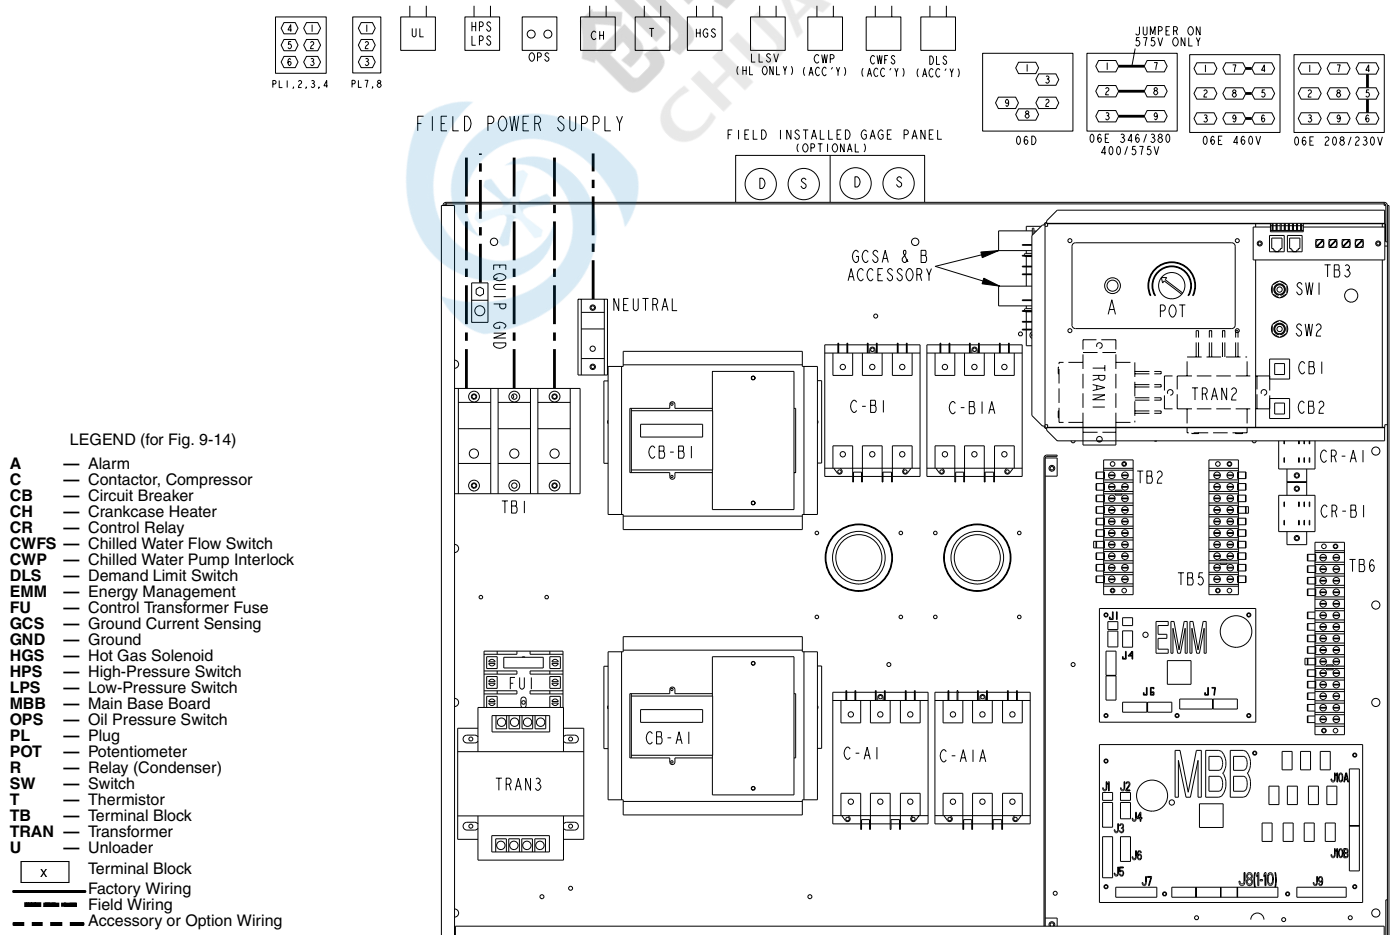
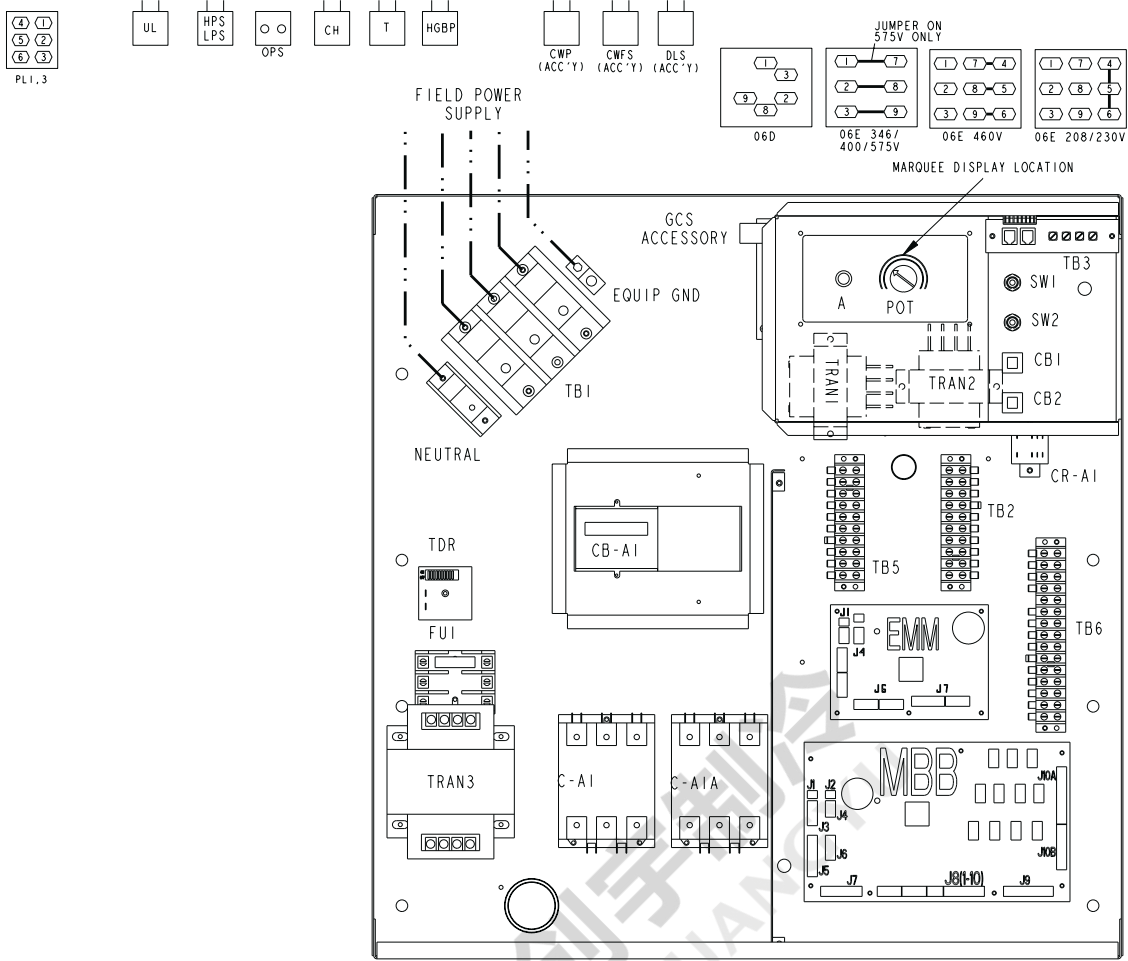

Fig. 9 — 30HK,HL Control Box Component Arrangement, ComfortLink Units
Fig. 10 — 30HW Control Box Component Arrangement, ComfortLink™ Units
1. Mount compressor ground current board(s) (Table 1, Item 1). See Fig. 9 for 30HK,HL units. See Fig. 10 for 30HW units. See Fig. 11 for 30GTN units. Use 4 screws provided (Table 1, Item 5) to mount each board. Mounting holes are pre-drilled in the left side of the fuse/circuit breaker/display bracket located in the upper right corner of the control box.
3. Install 6-in. (152 mm) wire (Table 1, Item 4) with the piggyback terminal on GCS-A-A. The other end of the wire should be connected to GCS-A-COM. For 30HK,HL units, install the other 6-in. (152 mm) wire (Table 1, Item 4) with the piggyback terminal on GCS-B-A. The other end of the wire should be connected to GCS-B-COM. See Fig. 9, 10 or 11 for locations in control box.